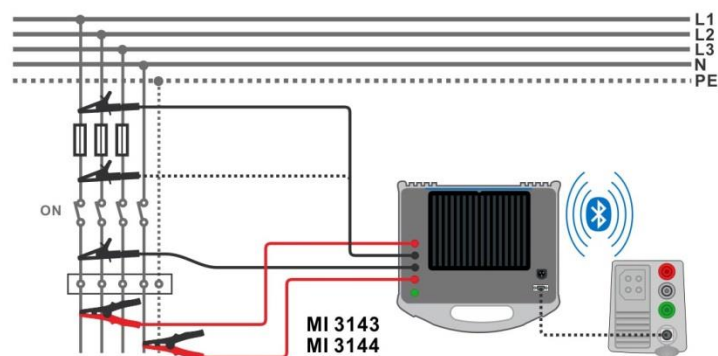

Figure 7.72: High Current resistance measurement
- › Connect test leads to the object under test. See **Figure 7.72**.